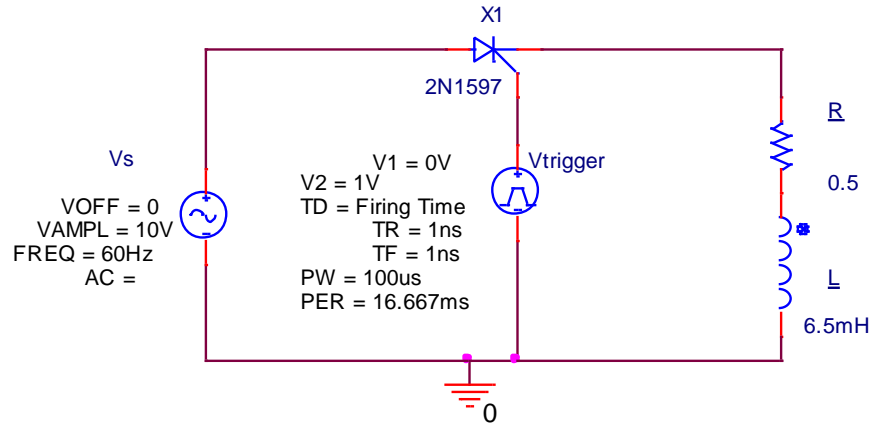

Figure 3: Half-wave controlled rectifier with RL load
- Next, replace the load for an  $RL$  load as shown in *figure 3*, keeping everything else to be the same. Split the simulation window in three plots. From top-to-bottom, trace input voltage, output current, and output voltage. Keep width of the trace lines a little bold and choose different colors for each trace (*right click on the trace*  $\rightarrow$  *trace property*). Compare your waveforms against the one learned in the theory to make sure that they are in close proximity.